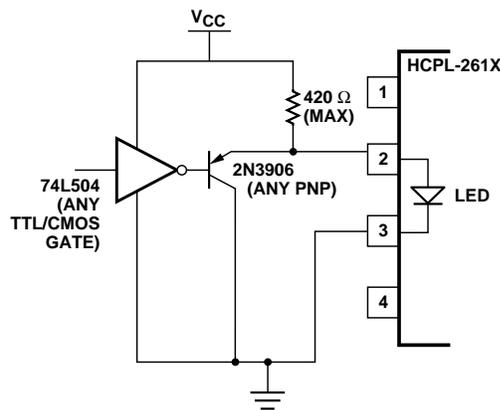

Figure 22. TTL interface circuit for the HCPL-261A/-261N families.
1. Use of drive circuits where current is shunted from the LED in the LED “off” state (as shown in Figures 22 and 23). This is beneficial for good CMR_H .
Using any one of the drive circuits in Figures 22-24 with $I_F = 10$ mA will result in a typical CMR of 8 $kV/\mu s$ for the HCPL-261N family, as long as the PC board layout practices are followed. Figure 22 shows a circuit which can be used